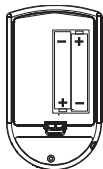

Figure 7
Open the battery cover located on the backside of the meter. Insert two (2) AAA Alkaline batteries and align them correctly. When batteries are installed correctly, the meter will turn on. See Figure 7.